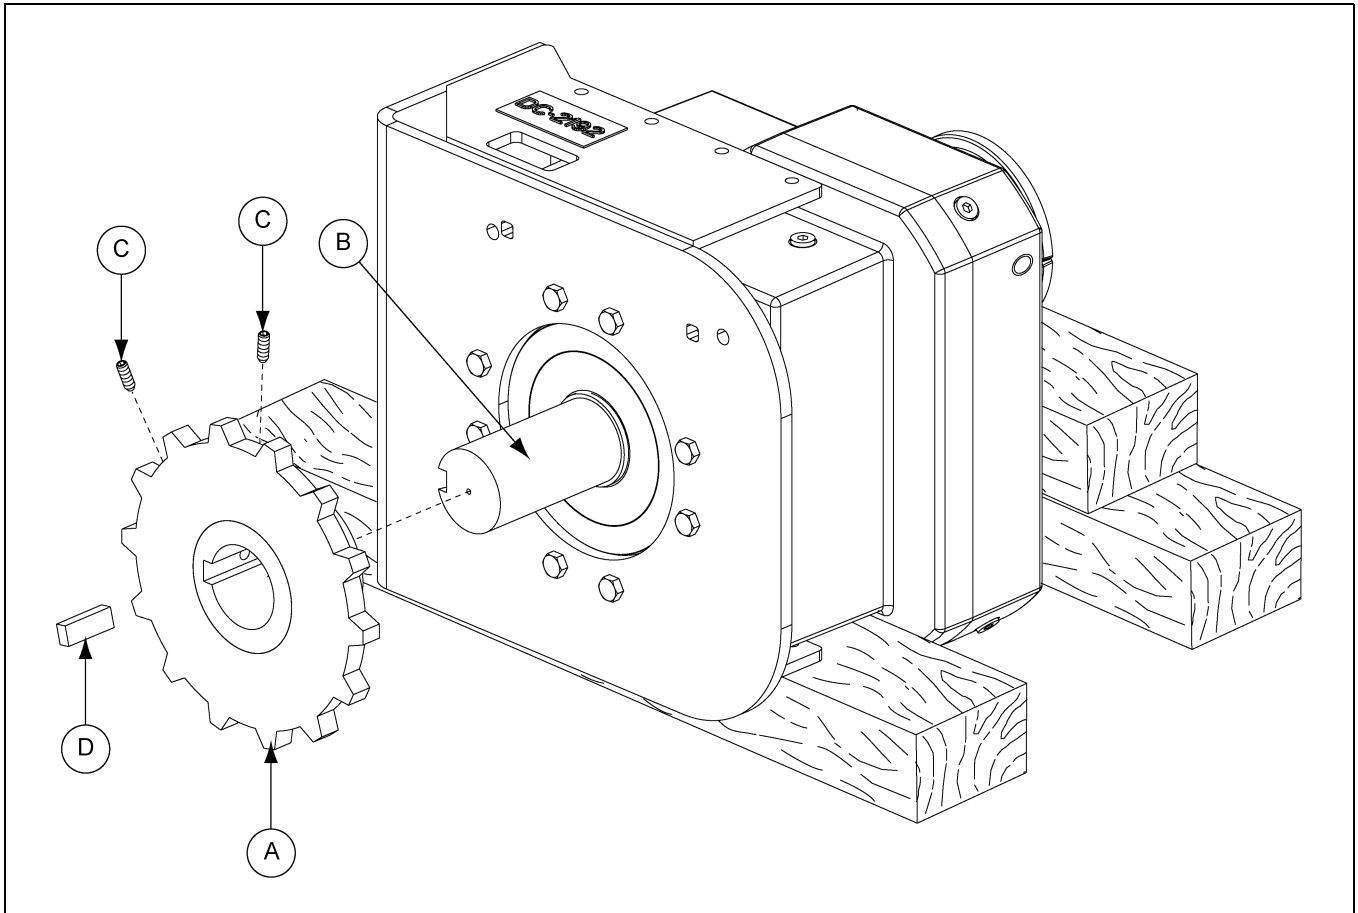

Figure 8D
1. Install the key (D) to the gearbox shaft (B). *(See Figure 8D.)*
2. Attach gear drive sprocket (A) to gearbox shaft (B).
3. Tap gear drive sprocket (A) flush to end of gearbox shaft (B).